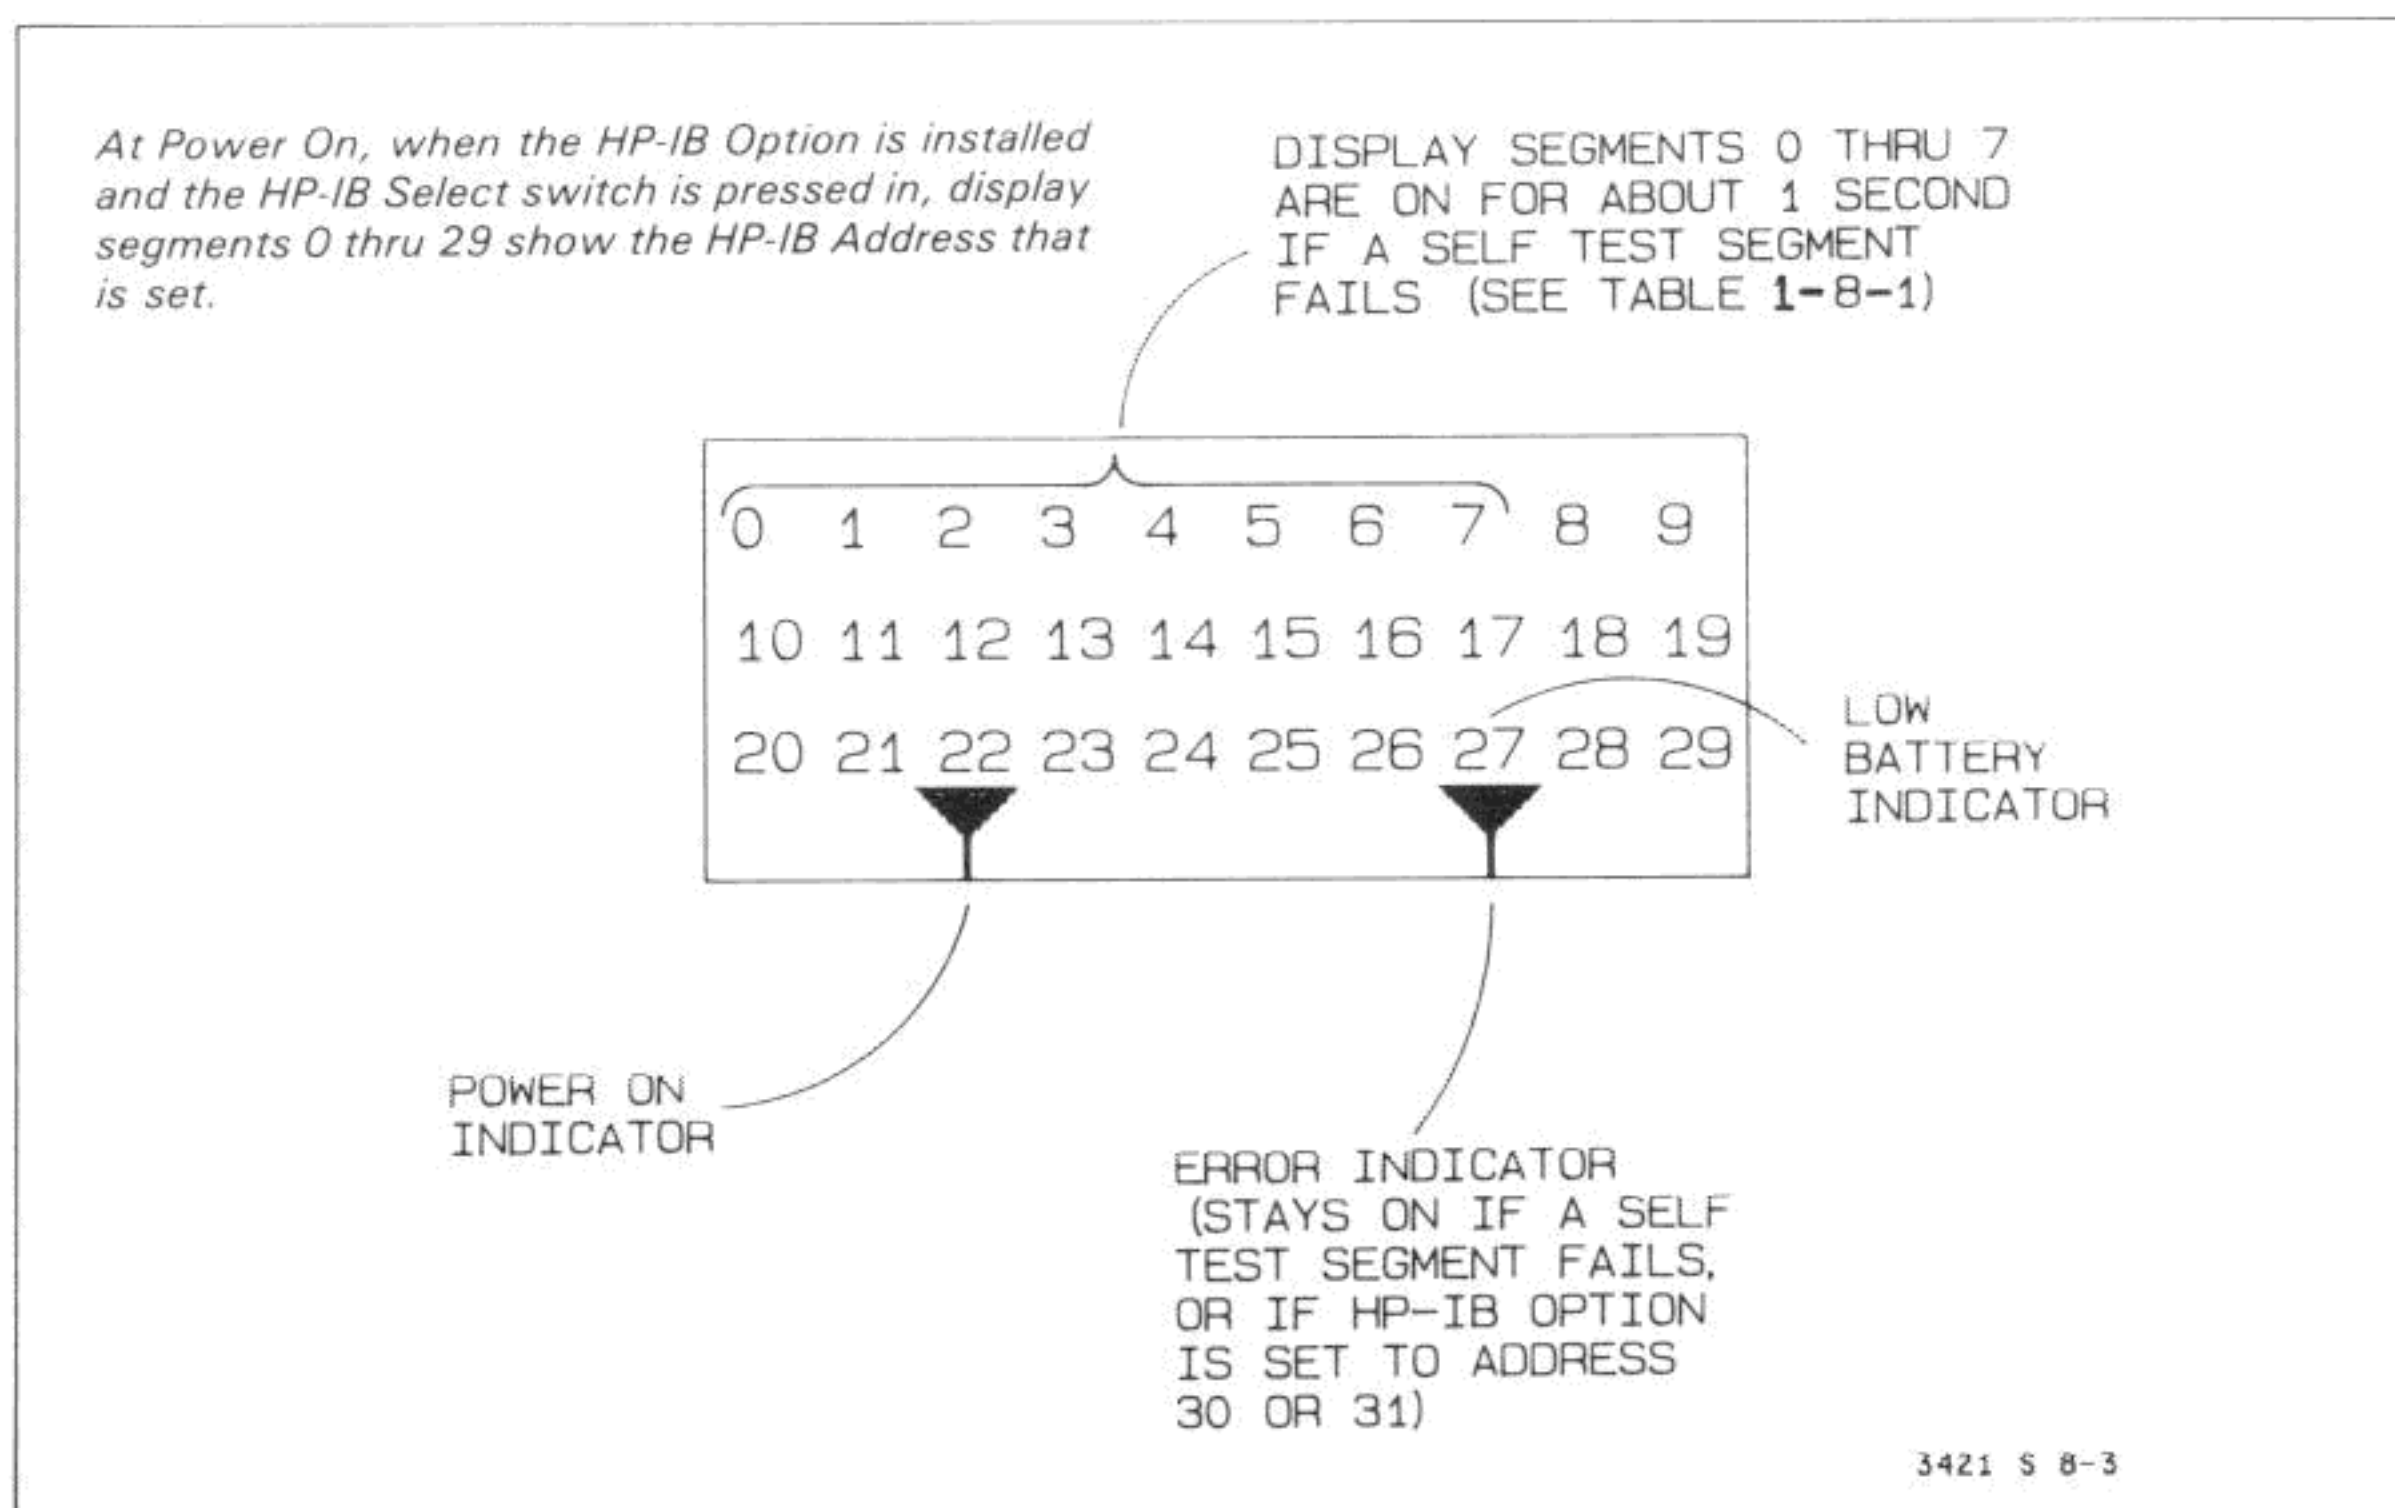

Figure 1-8-3. Self Test Display
1-8-22. The HP 3421A has a built in self test feature that has eight segments (0 thru 7). Self test is activated at power on, when a Device Clear (DCL or SDC), or RESET (RS) command is received from a controller. At power on, for example, the following sequence takes place. First, all segments of the display are turned on for about one second, followed by the display going blank, except for the power-on indicator. Next, any self test segment that fails is displayed for about one second (eg, 0, 1, 2, etc.). The self test segment that failed then turns off and the error indicator turns on. If any self test segment fails, the error indicator will stay on after self test is complete, but not the self test segment indicator. Figure 1-8-3 explains the various portions of the display that result from self test.